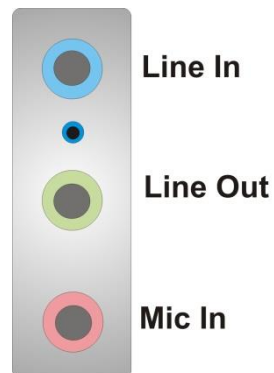

Figure 3-35: External HD Audio connector
- CN Location:** See Figure 3-35